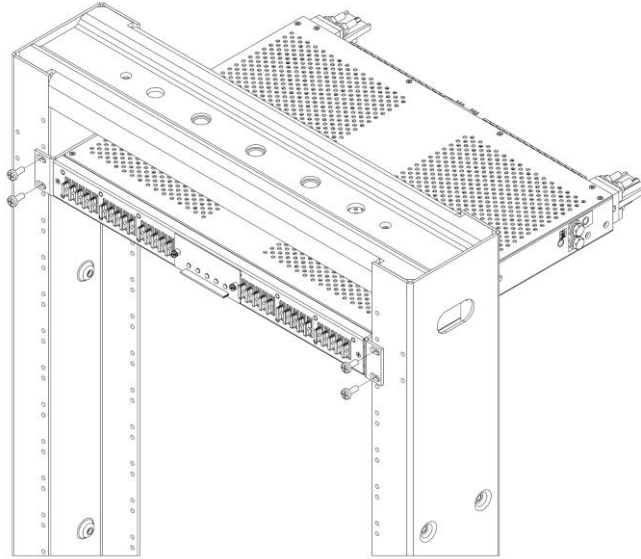

Fig. 2-3: Installing panel in rack
5. Locate an unused rack position and mount the panel using two sets of fasteners per side, as shown in Fig. 2-3. Mount the panel as high as possible on the rack. Use a seismic rack for best rigidity.